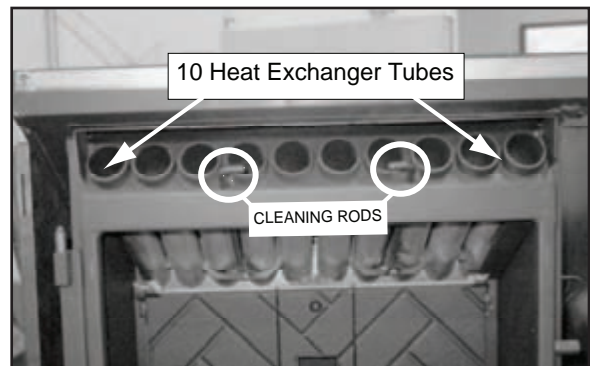

Figure 33.1
- Pull firepot cleaning rod OUT a couple of times to help shake debris loose. **See Figure 33.1 on page 33.** If rod is hard to pull, it may be necessary to use your firepot clean-out tool to chip away material that has built up on the bottom plate of the firepot and to push out any clinkers. Larger clinkers may have to be removed from the top of the firepot. Corn clinkers can be especially difficult to break up.
- a. Allow the appliance to completely cool down before pulling the cleaning rods. Turn the thermostat on and then immediately off to start the exhaust blower on its cycle time. It will pull fly ash out the exhaust instead of into the room. Open the cast front door to access the 2 cleaning rods. **Figure 33.1.**